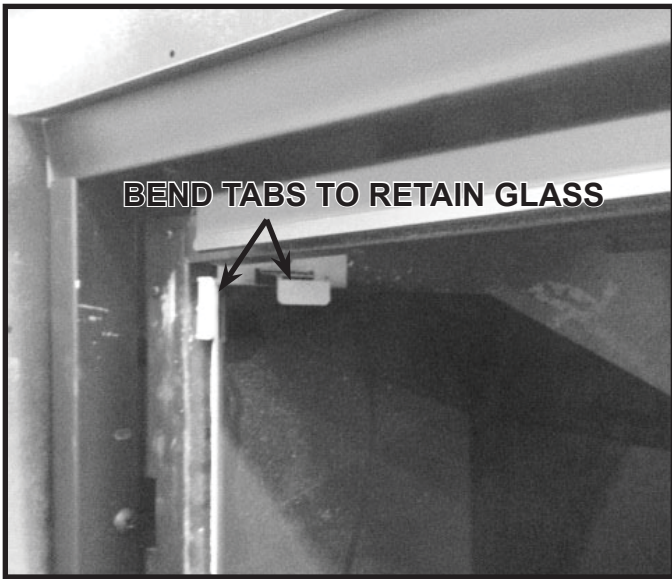

Figure 10. Left Refractory Tab
9. Bend tabs over to retain glass. See Figure 10.